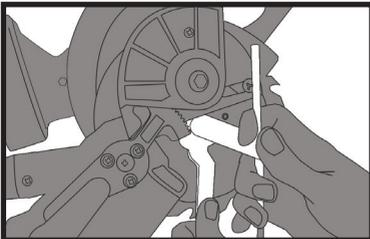

Fig 4
6. Using the supplied Hex-headed spanner release the arbor screw to remove the blade. (Fig. 4)